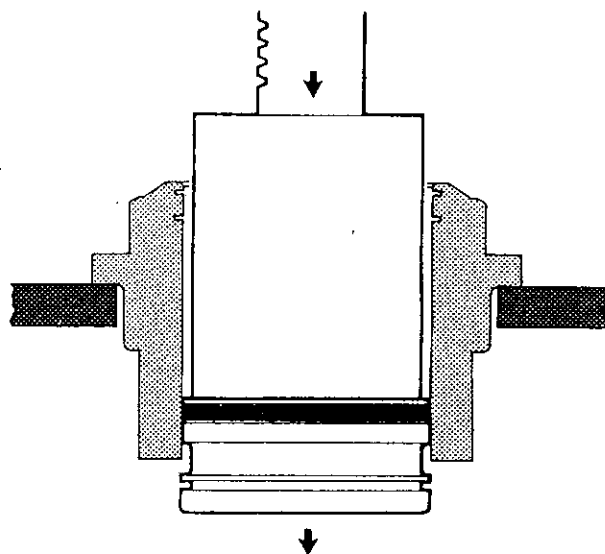

Figure 3.12
19. Invert the drive housing and remove the second retaining ring (15). This will provide additional clearance for pressing out the piston actuator (19).
20. Remove the piston actuator in the direction shown in Figure 3.12.